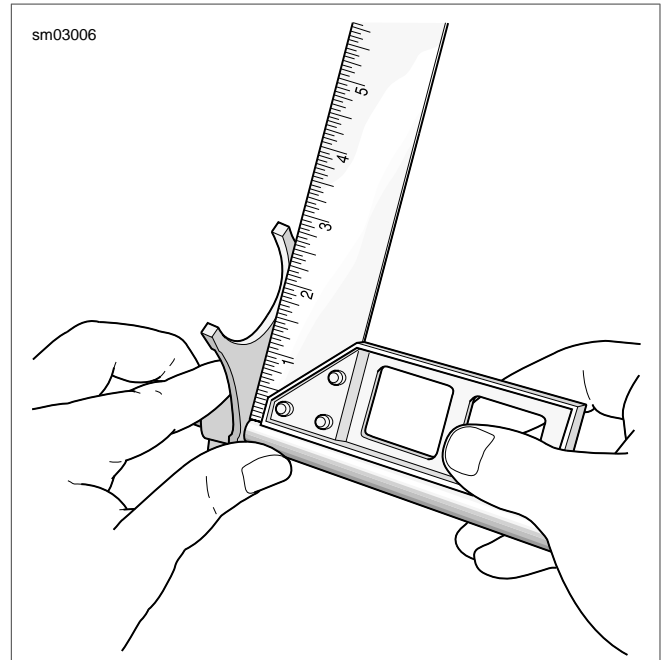

Figure 6-25. Checking Fork
- See Figure 6-25. Using a small carpenter's square, verify the shift forks are square. If shift fork does not rest directly on the square, then it is bent and must be replaced.